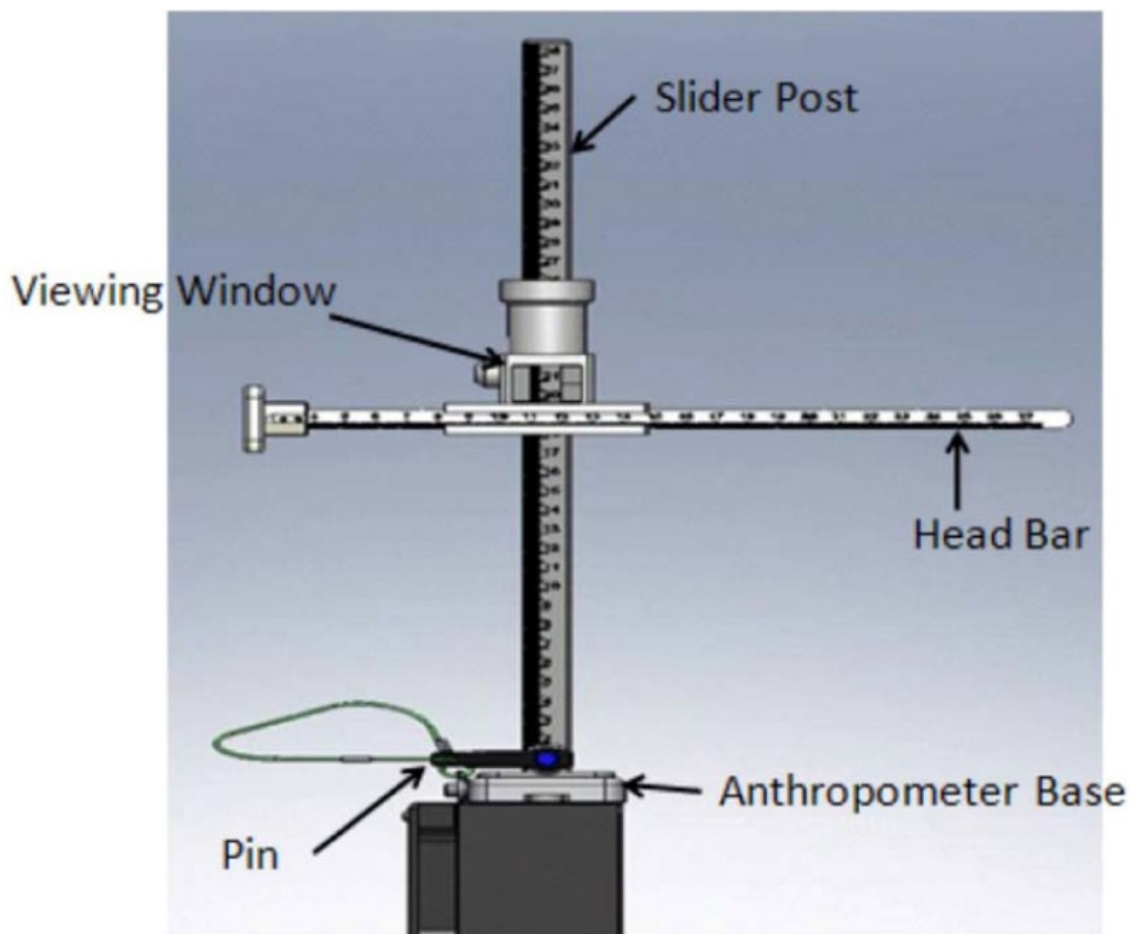

Figure 9. Head Bar Connected to Slider Post
- 5.6 Retrieve Head Bar from tmpy stow and insert into slot on Slider Post, ensuring that numbers on the Head Bar and slot on the Slider Post are facing the D2Xs Camera. Refer to Figure 9.